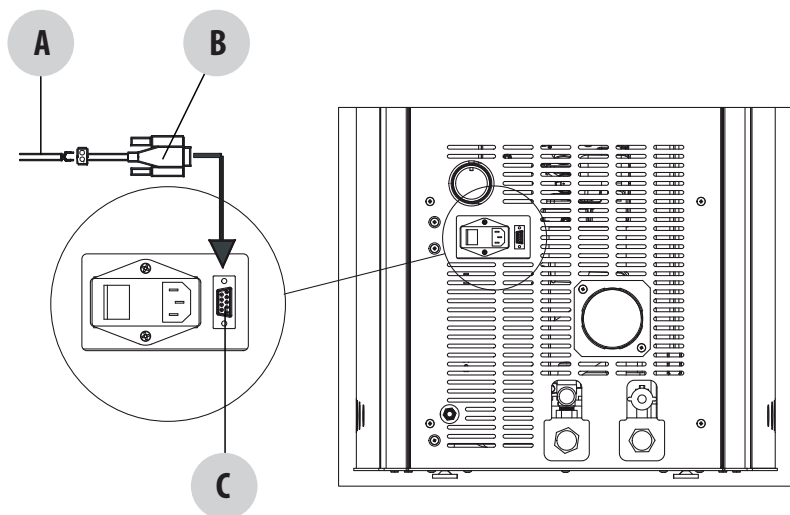

FIG. 6
- Where there is a socket on the rear part of the stove, connect cables 1-2 of the receiver to the terminal of the serial connector (supplied with the stove/boiler) and insert it into the socket (figure 6).
Proceed as follows if there is the control panel (fig. 6) shown below on the stove: